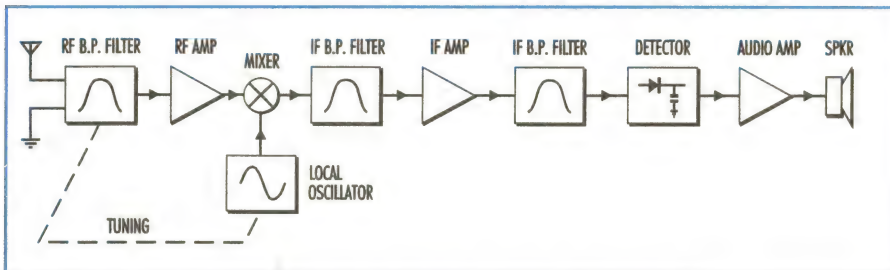

Fig. 1: The block diagram for a basic superhet radio receiver.
Fig.1 shows the block diagram for a basic AM superhet receiver. As you can see, the signals picked up by the antenna system pass first through a tuned RF bandpass (BP) filter, and then through an RF amplifier (although this is often omitted in simple superhet receivers). Then they pass to the mixer, where they beat with the signal from the local oscillator, which is tuned so that its frequency is a fixed 455kHz (10.7MHz for FM) away from the wanted signals (usually, it's higher).
Now let's look at the way this 'AM/FM receiver chip' is actually used as the basis for our complete radio. As you can see from the main schematic of Fig.3, this mainly involves connecting it up to a collection of coils and other components, which do the filtering jobs shown in Fig.1.